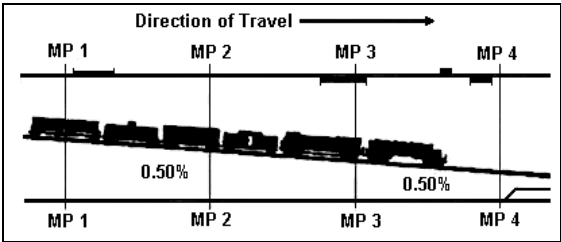

**Figure 5-12. Direction of Train Travel in a Slack Bunched Method (Dynamic Brake Available)**
a. **Slack Bunched Method – Dynamic Brake Available (Preferred Method for Level, Light, Heavy, and Mountain Descending Grades) (see Figure 5-12).**